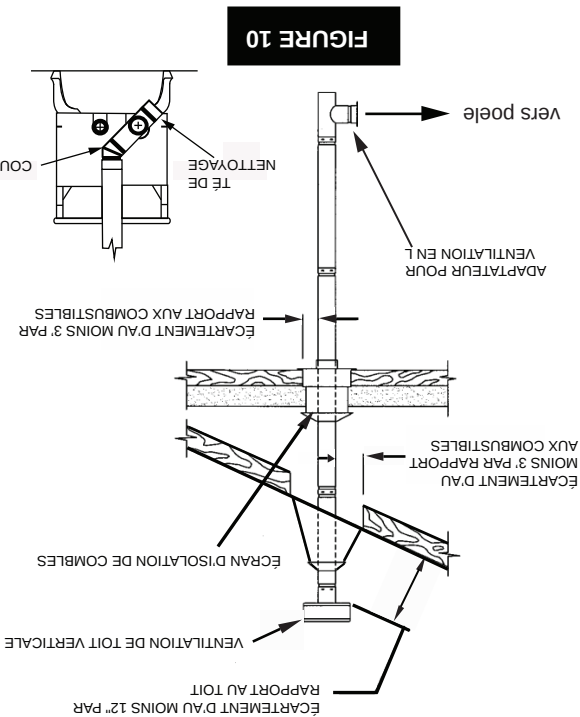

FIGURE 10
C. VERTICALEMENT AVEC UN SYSTÈME DE CHEMINÉE NEUF (Figure 10)